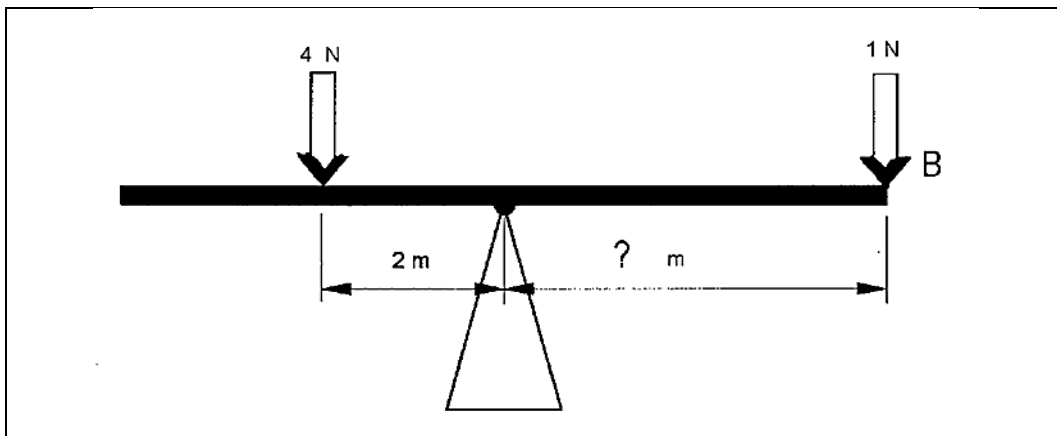

FIGURE 1.20
- 1.20 FIGURE 1.20 shows a beam with two loads. Determine the distance of load B from the fulcrum in order to balance the beam.